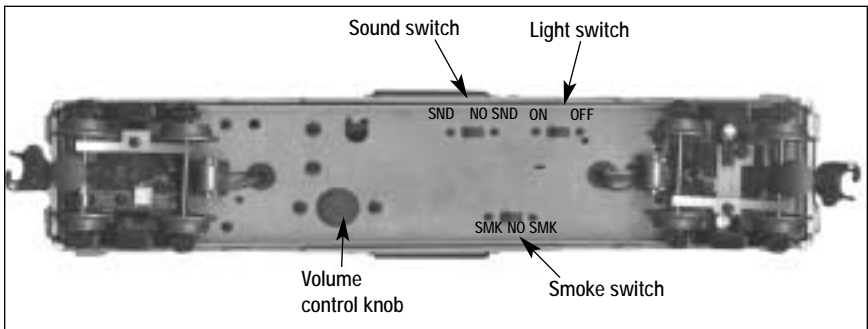

Figure 2. Switch and volume control knob locations
**U**se the switches and volume control knob on the underside of the car to fine-tune its operation. Refer to Figure 2.